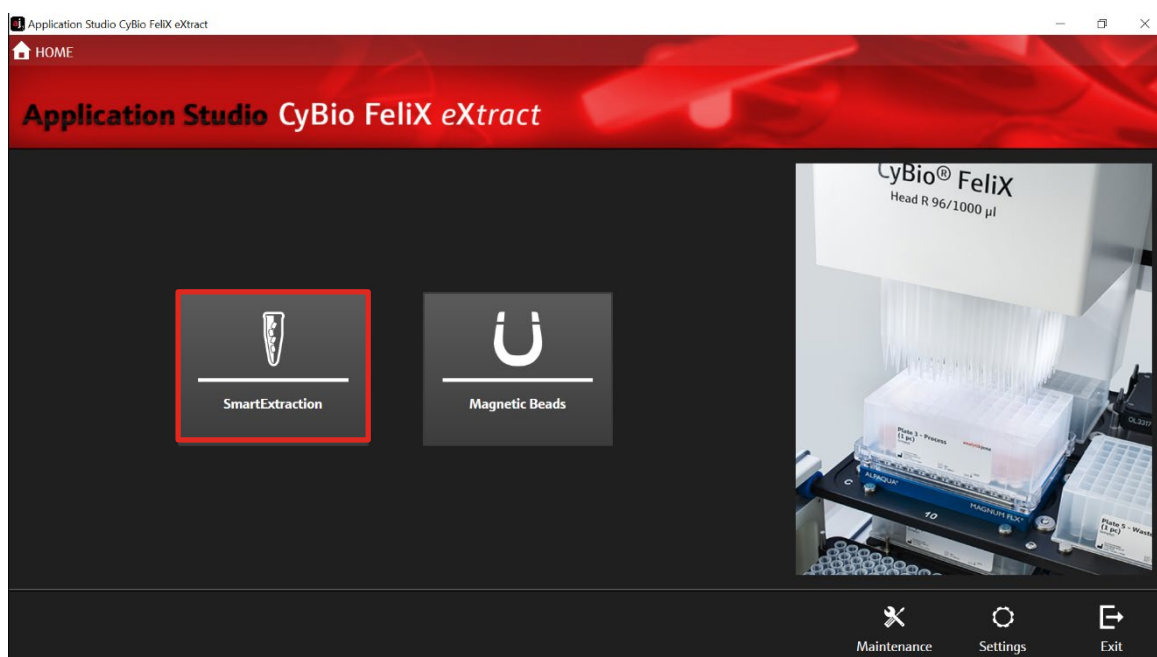

Figure 4: HomeScreen of the AppStudio FeliX *eExtract*. Selection of extraction technology: "SmartExtraction".
- Choose "SmartExtraction" (→ see **Figure 4**).